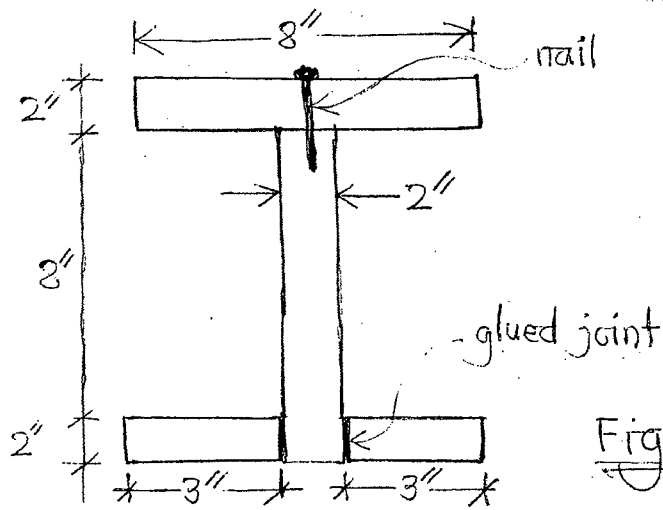

Fig. 4
5. A I-section of a beam is made of four wooden planks as shown in Fig. 4. The top flange is fastened to the web with nails and the bottom flange is fastened with glue. This beam has to carry maximum vertical shear force of 1000 lb. If shear capacity of each nail is 300 lb, determine the nail spacing with a factor of safety 2. Also determine the stress in the glued joint. (14)